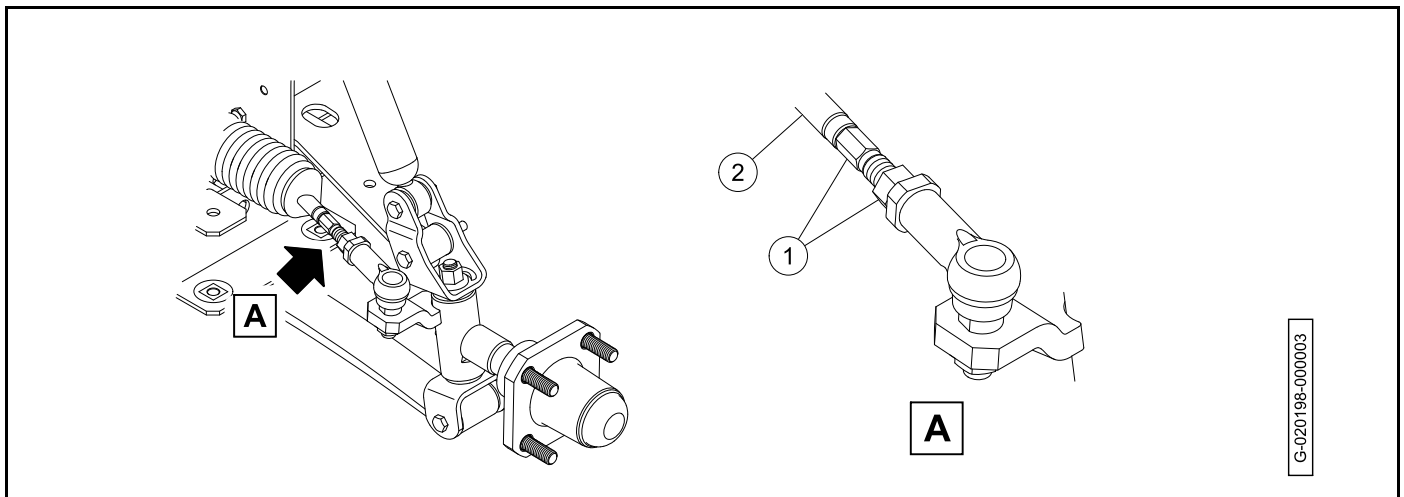

Figure 7-10
- 9.1. Loosen the jam nuts (1) on both ends of each drag link (2) (**Figure 7-10**).